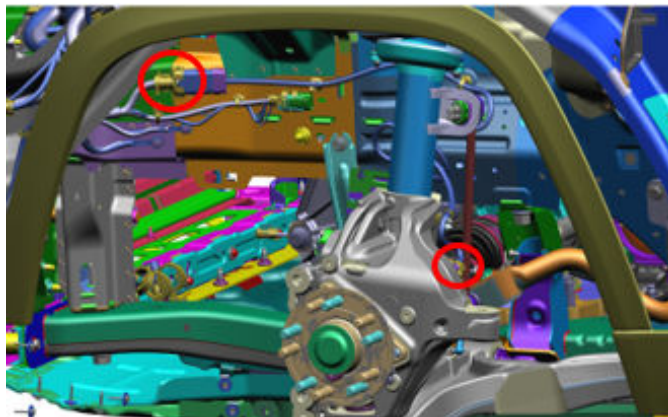

Fig. 2
6. Disconnect both ends of the harness Fig. 2.